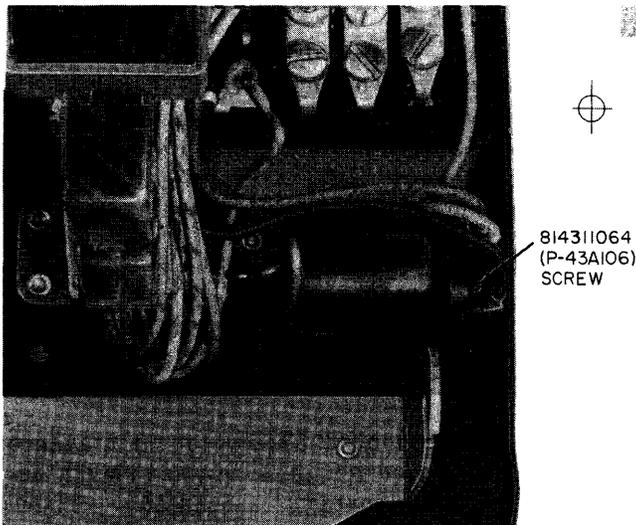

Fig. 11—501-Type Telephone Set, Tube Assembly
(2) Tube assembly is held to base of set with single screw (Fig. 11).